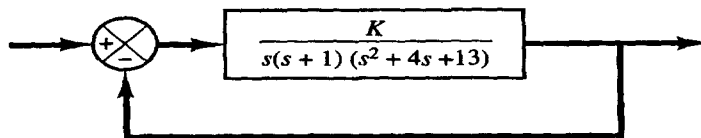

Figure 3
**Question #3** (20 marks) Sketch the root loci for the system shown in Figure 3,